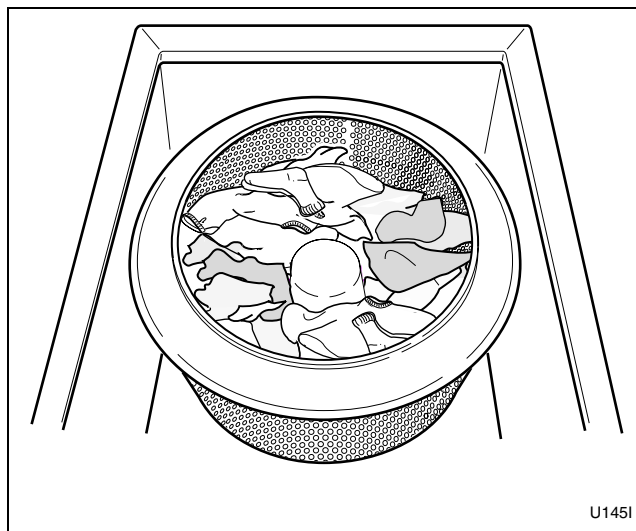

Figure 11
8. When cycle is finished, place washables in extract-rinse compartment. Distribute evenly around agitator. Refer to *Figure 11*. Arrange items in extractor basket like sections of a grapefruit.